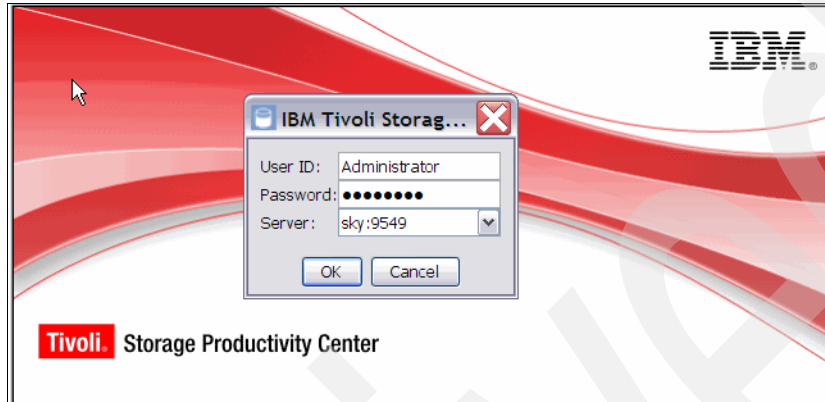

Figure 13-3 SSPC: TPC user ID and password
2. Type in your Tivoli Storage Productivity Center user ID and password, as shown in Figure 13-3.